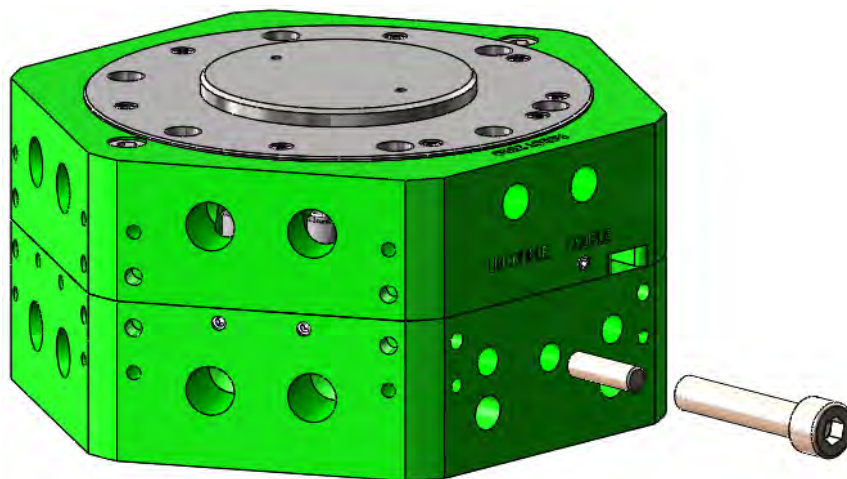

Figure 7.4-1. Manual Uncouple Feature
4. Insert a 6mm OD x 20mm long shaft followed by a M8x40mm long socket head cap screw in the hole located in the middle Position 1 of the Tool Adaptor Housing as shown in Figure 7.4-1. This requires any tool side modules on Positions 1 to be removed.